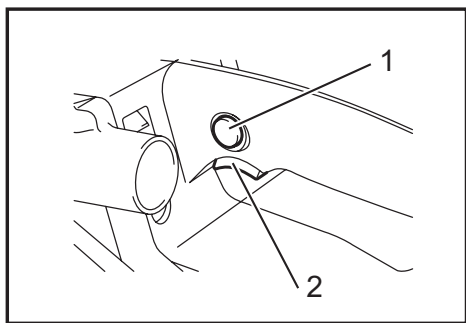

Fig.1
► Fig.1: 1. Lock button 2. Switch trigger